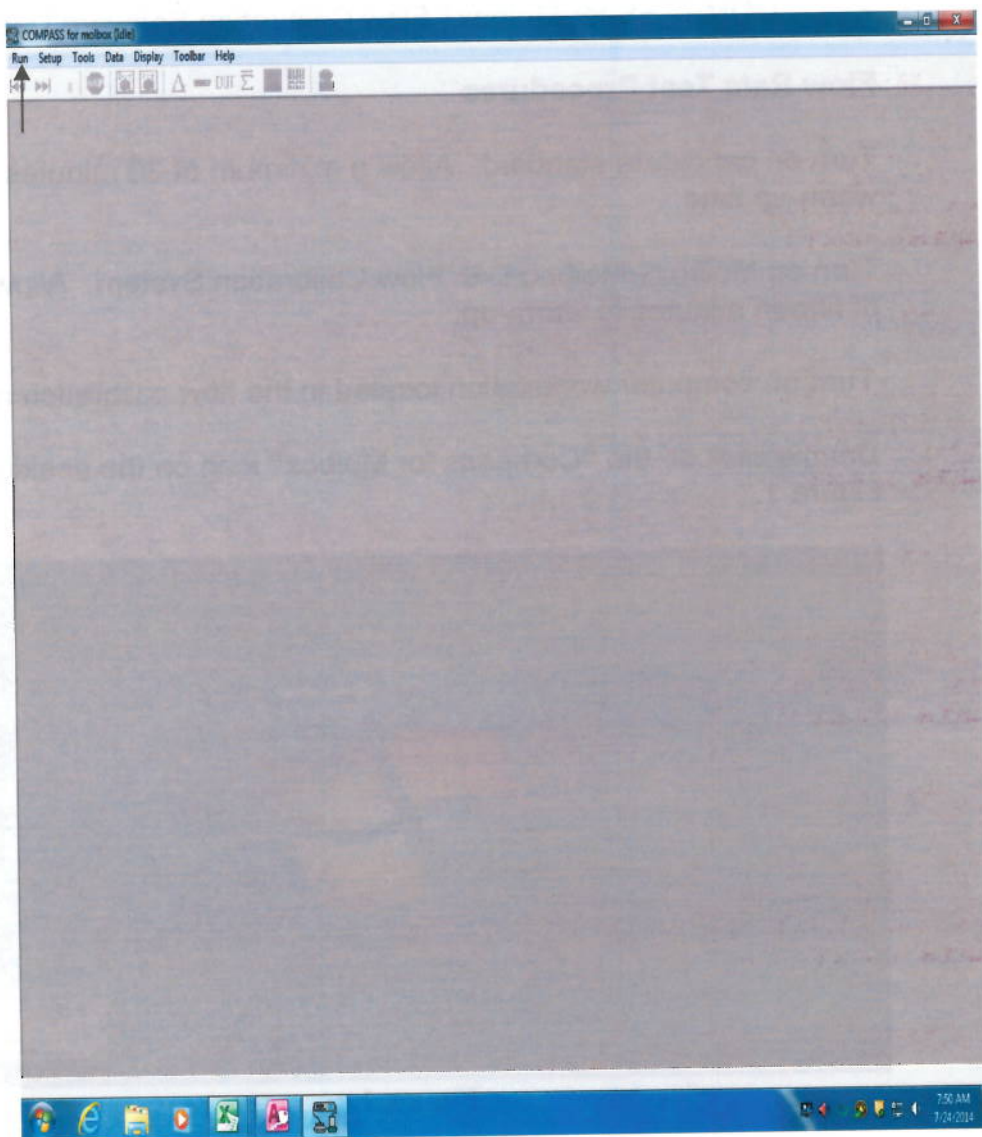

Figure 2
12.3.1 Click “Run” on the pull down menu. See Figure 2.